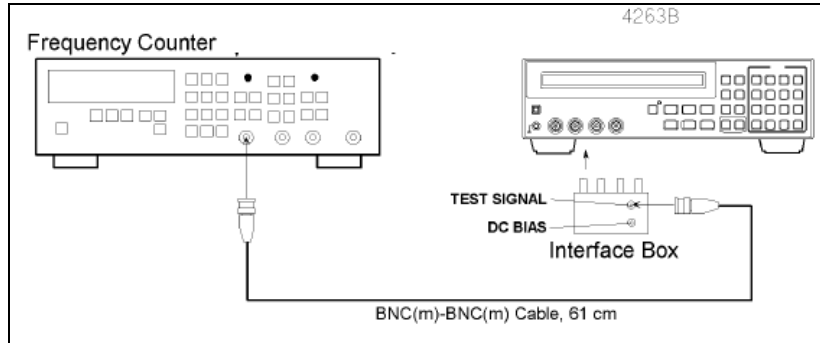

Figure 1-1: Test Signal Frequency Accuracy Test Setup
2. Set up the equipment as shown in figure 1-1.